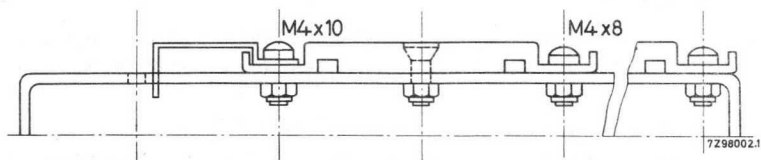

Fig. 10. Short-Board Version; position of rear profile strips on side plates (Step 5)
5. Similarly, assemble the 2 rear profile strips (connector rails to be on the outside edge of the assembly), using 4 screws M4x8, 4 screws M4x10 and 8 hexagonal nuts. Do not tighten the screws and nuts completely. Leave the countersunk holes empty. For the Short-Board Version see Fig.10.